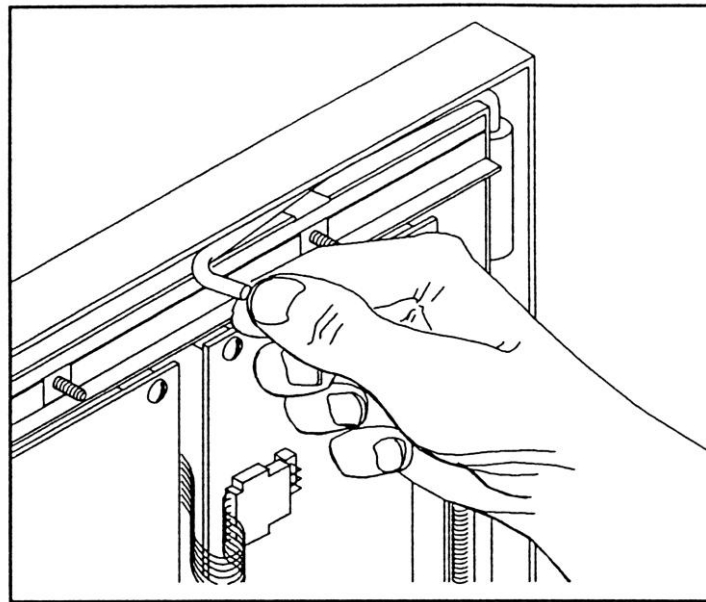
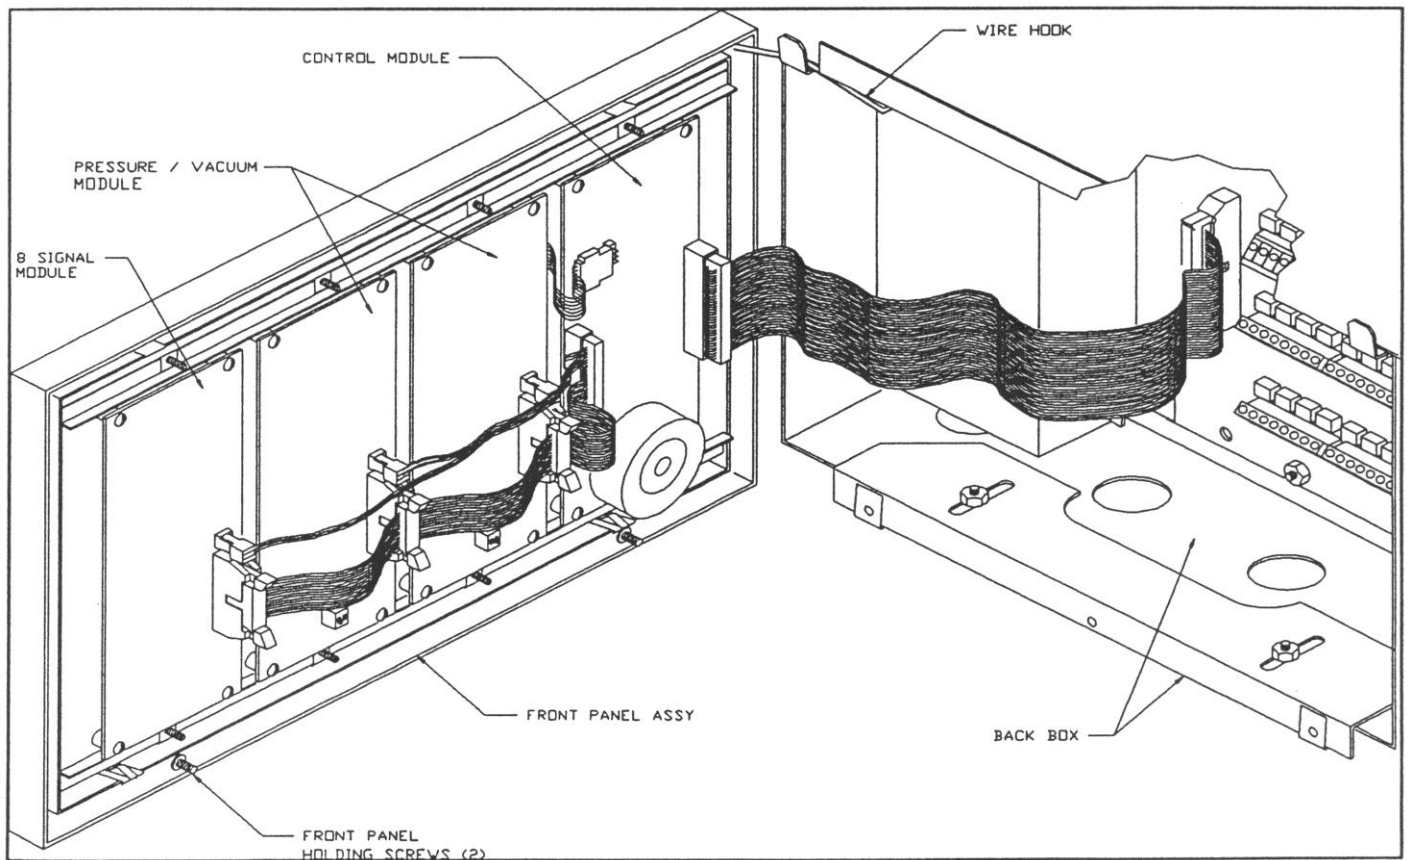

Figure 17 – Wire Hook
Figure 18 – Front Panel Installation
4.2.10 Installing the Front Panel (See Figure 18):
- 4.2.11.6 Pull the Wire Hook out from the frame (see Figure 17) and hang the Front Panel on it (see Figure 18), using the tab on the left side of the top mounting bracket.
- 4.2.11.7 Plug the ribbon cable from the Control Module into the connector on the Mother Board (see Figure 18).
5.1.0 Hang the Front Panel on the Wire Hook provided (see Figure 17). Install ribbon cable per Installation Instructions and turn Power Switch on.